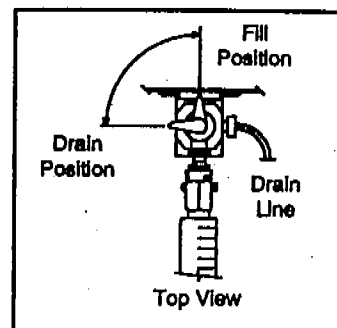

Fig 4.8 Sample Valve
- Confirm proper Sample Valve position for Drain (see Fig. 4.8, p. 32). Press [2nd] [CLEAR] to drain. You will be asked to verify drain by pressing [ENTER].
- Open the syringe valve, then turn the Sample Valve Handle to the fill position (see Figure 4.8).